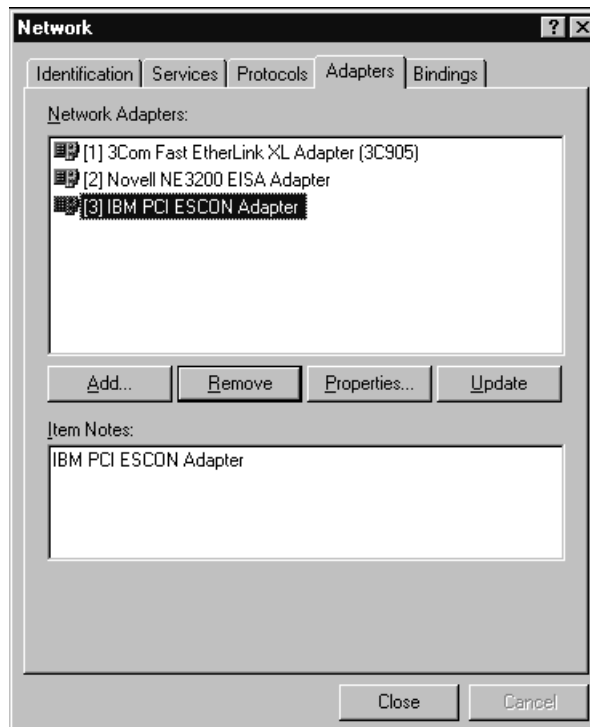

Figure 3-11. Network Settings with Netfinity ESCON Adapter
7. To complete installation click **OK**. You will be returned to the **Network** dialog. The IBM PCI ESCON Adapter will now appear in the list of network adapters (Figure 3-11).